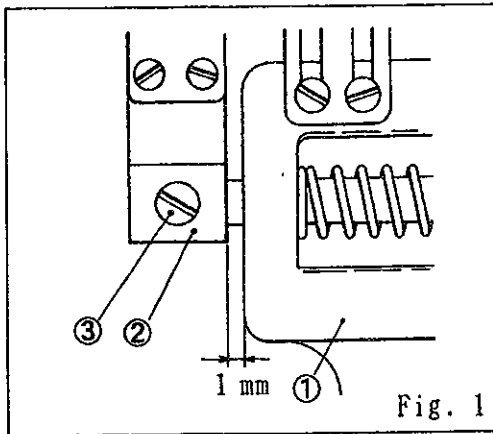
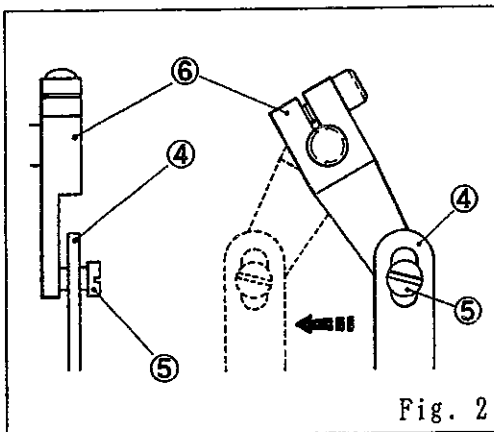

Fig. 1
Fig. 2
See the figures 1 and 2.
- (1) Move the needles to their top.
- (2) Loosen the screw^③ and adjust so that the hook^② of the wiper^① passes in front of the needles 2.5 mm - 3.0 mm away from the center of the needles. (Fig. 1, Fig. 2)
- (3) Loosen the screw^④ and adjust so that the wiper^① passes 1.0 mm below the left needle. (Fig. 1, Fig. 2)
When the wiper^① is at the extreme left, loosen the screw^⑤ of the wiper holder and adjust so that a distance from the center of the needle bar to the hook^② is 6.0 mm. (Fig. 1, Fig. 2)